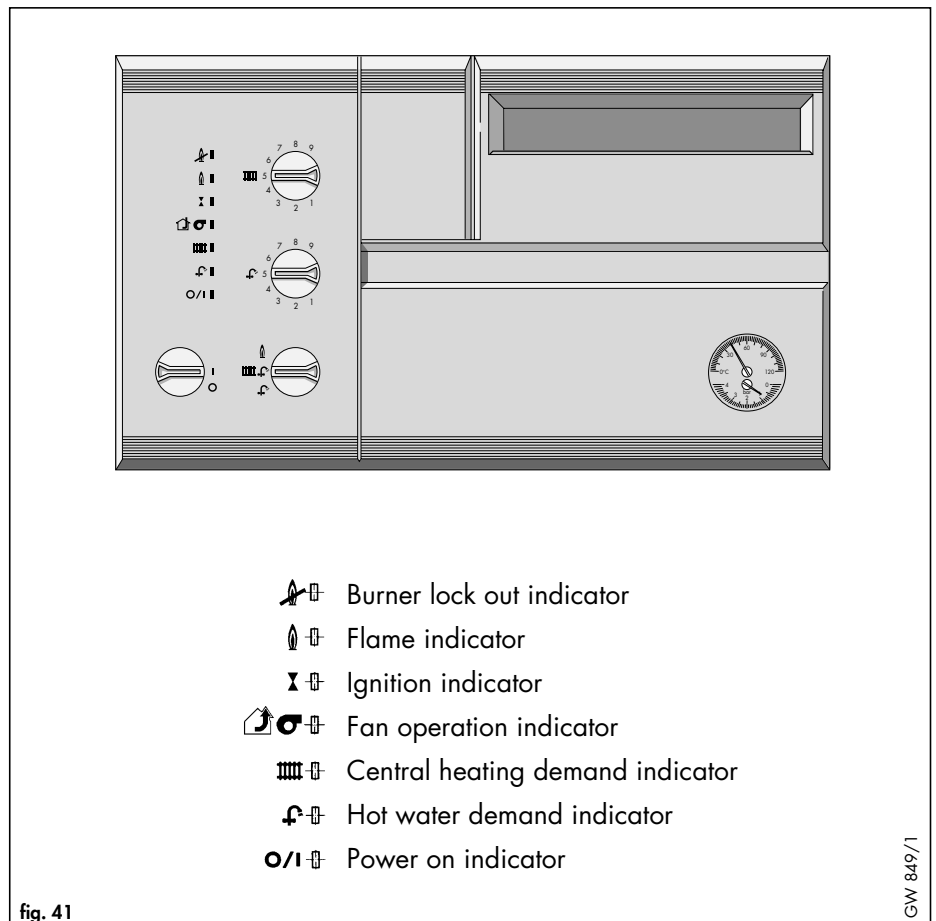

fig. 41
(If the boiler should fail to light after the 2nd ignition attempt the 'lock out' indicator will illuminate - see fig. 41. This usually means that the gas supply is turned off, or is not purged of air. Check gas supply, and turn the central heating control to the reset position - (II) - and repeat lighting procedure).
The Vaillant TURBOmax is equipped with a set of diagnostic indicator lights to show the operational status of the boiler. A functional check of DHW and CH operation can be made using these indicator lights (fig. 41).